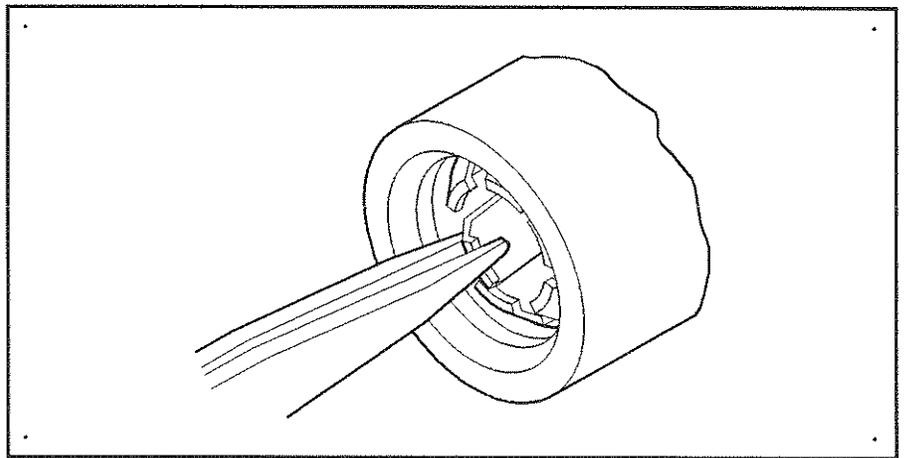

Figure A-10. Moving a Damaged Finger
- b. If the damaged fingers prevent you from inserting the tool, use tweezers to either move aside or remove the damaged fingers (see Figure A-10).